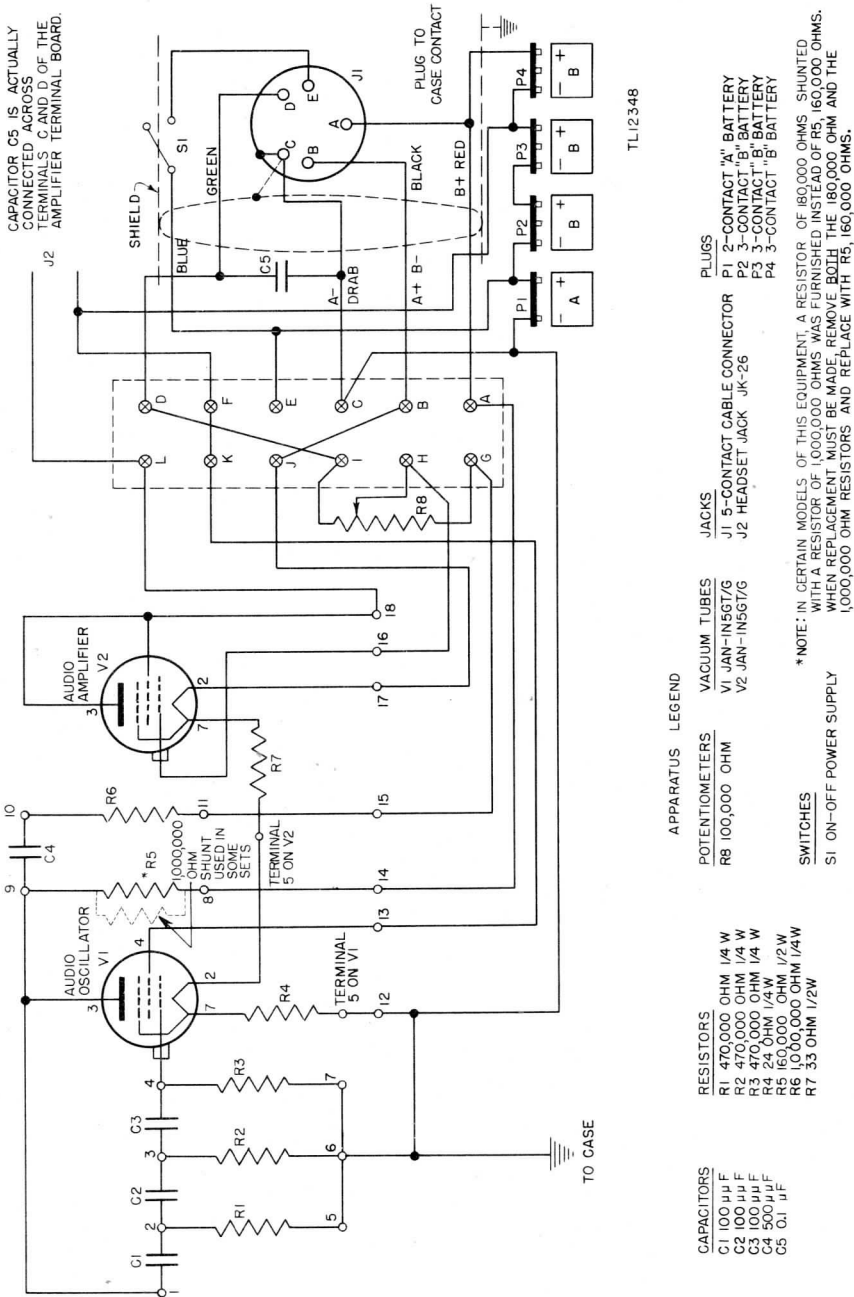

Figure 16. Amplifier Assembly AM-32/PRS-1, circuit diagram.
**13. AUDIO OSCILLATOR CIRCUIT.** A phase-shift type audio oscillator (fig. 16), designed to operate at a frequency of approximately 1,000 cycles per second, provides the signal for the aural indication of the presence of mines. Tube JAN-1N5GT/G (V1) is used as the audio-oscillator tube. The resistance-capacitance network C1—R1, C2—R2, and C3—R3,
**14. AUDIO-AMPLIFIER CIRCUIT.** Tube JAN-1N5GT/G (V2) as shown in figure 16 is used in the audio-amplifier circuit. Resistor R4, the resistance of the filament of V1, and resistor R7 provide bias voltage for the control grid of amplifier tube V2. Resistor R6 and the series potentiometer R8 are used as a voltage divider to limit the amount of audio signal applied to the audio-amplifier tube. In addition, resistor R102 in the resonant-line oscillator circuit is connected in the control-grid circuit of amplifier tube V2.
#### 19. VOLTAGE, RESISTANCE, AND CONTINUITY MEASUREMENTS ON AMPLIFIER ASSEMBLY AM-32/PRS-1 (figs. 16 and 18).